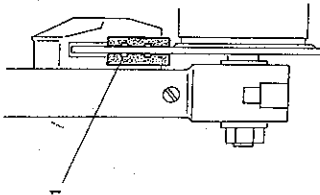

fig. 7
Checking the condition of brake pads is visual. When the pads are worn out till the grooves (pos. 1, fig. 7), brake pads must be changed.